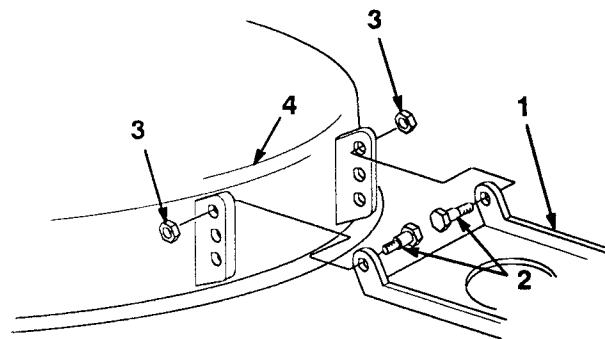

Figure 51
11. If the 1/4" to 5/8" (6.350 mm to 15.875 mm) front slope cannot be achieved by rotating the slope adjusting nut, move the mower pivot mount at the mower (Fig. 51).
12. Remove the shoulder bolts and lock nuts from the mower (Fig. 51).
13. Lower the mower pivot one hole and install the shoulder bolts and lock nuts (Fig. 51).